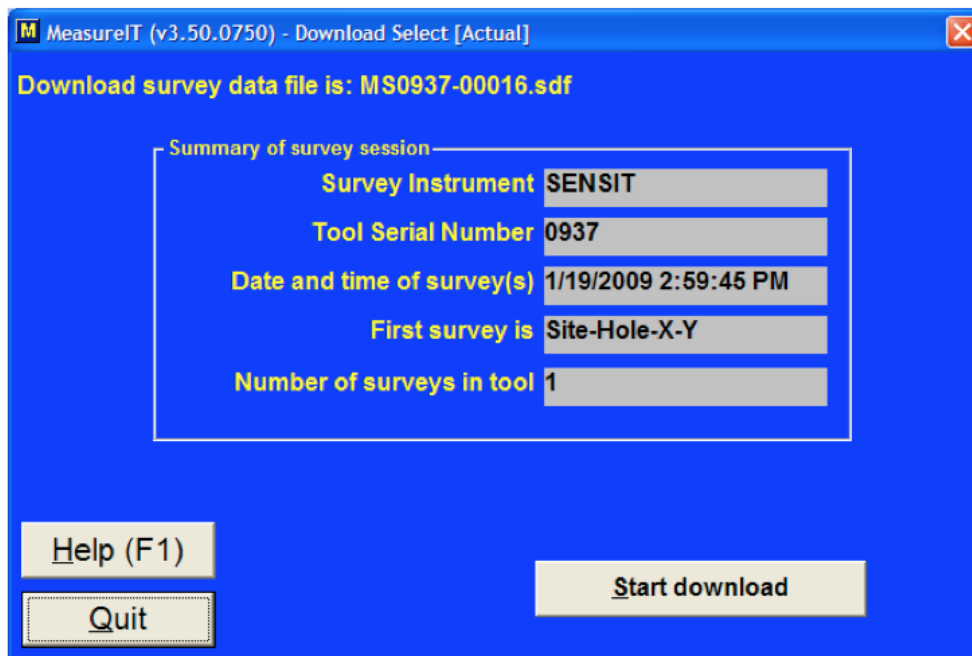

Figure 11 Start the download process
3. Click **Start Download** to begin the data download (Figure 11). You'll need to select your tool from the list as before.